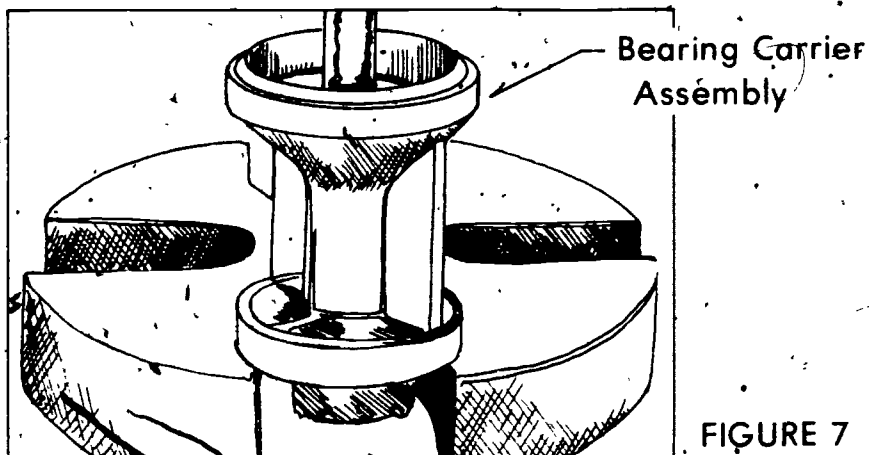

FIGURE 7
13. Press or tap roller bearing and seal from carrier (Figure 7)